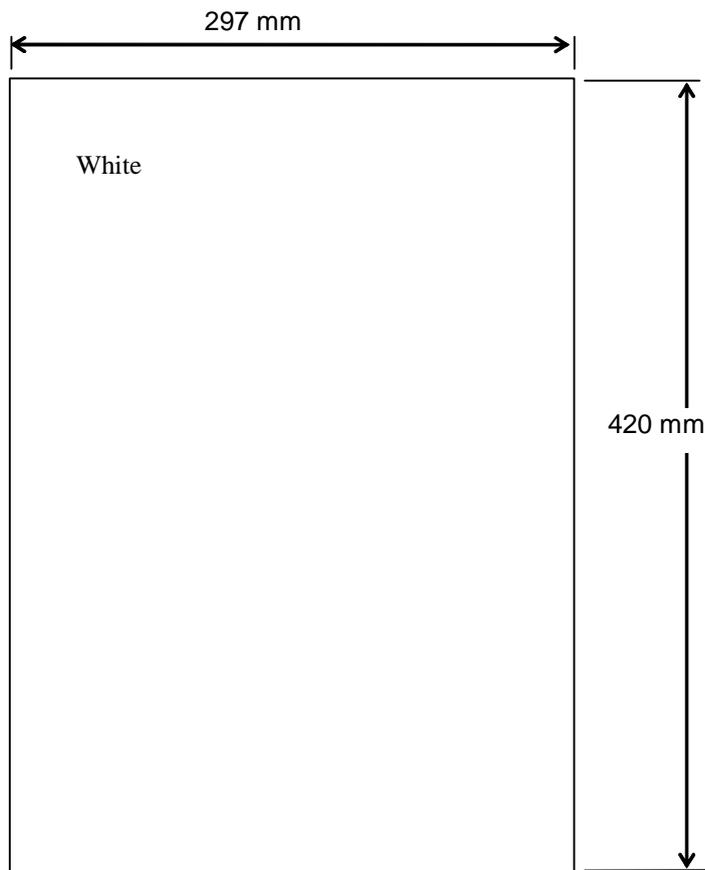

Figure 7.1.3 Magnification / Offset Adjustment Test Sheet
(2) Set a white A3 sized sheet of paper (Figure 7.1.3) on the Hopper in Portrait orientation, and adjust the side guides to the width of the sheet.
- Before this adjustment, obtain the Adjustment Test sheet described in the figure 7.1.3. This is a white A3 sized sheet of paper.
- Set a white A3 sized sheet of paper (Figure 7.1.3) on the Hopper in Portrait orientation, and adjust the side guide to the width of the sheet.